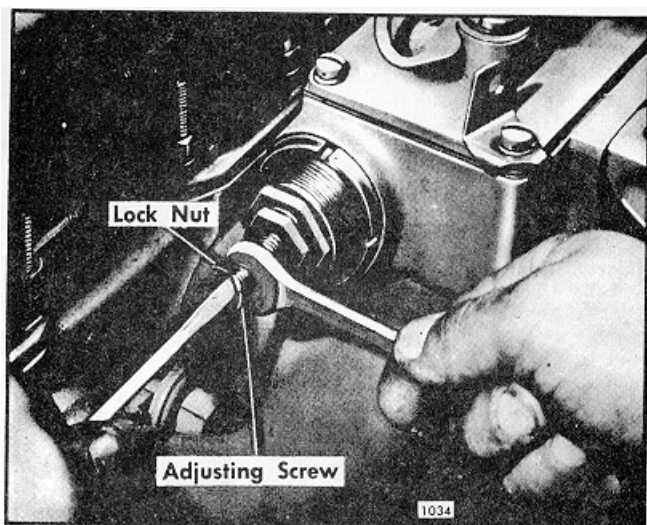

Fig. 11 - Adjusting Idle Speed
engine rpm at the tachometer; then, loosen the lock nut (42) and thread the idle adjusting screw (43) IN to increase or OUT to decrease until 385 engine rpm is obtained, Fig. 11. Tighten the lock nut.